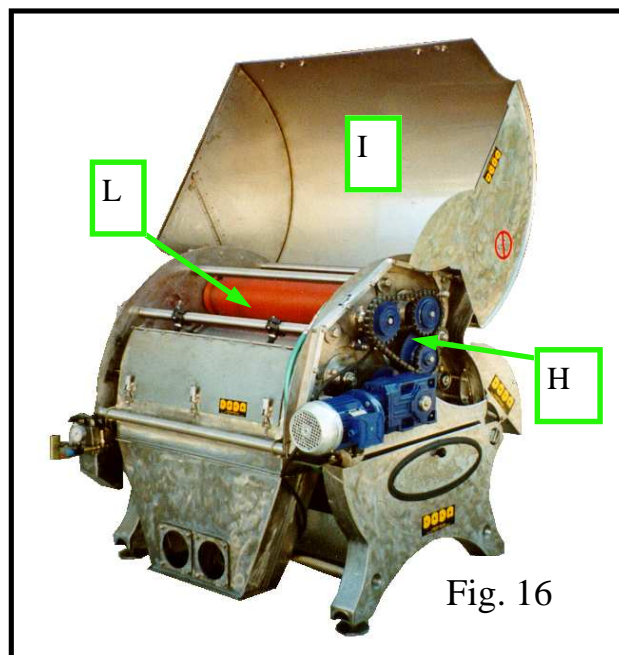

Fig. 16
-Lift protection **I** **fig. 16** and grease side driving chains **H** on both sides.
- lift protection **I** **fig. 16**.